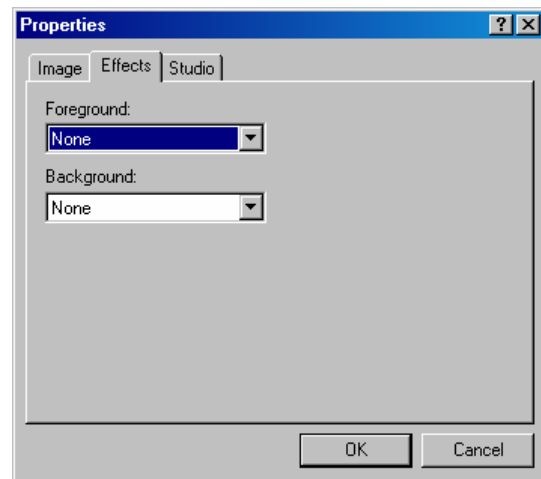

Figure 31. Image Properties.
64. To change the foreground and background, select the Image drop down menu then Image Properties. A dialog box such as in figure 31 will appear. This will allow you to change lighting (Studio) or the image quality (Image).